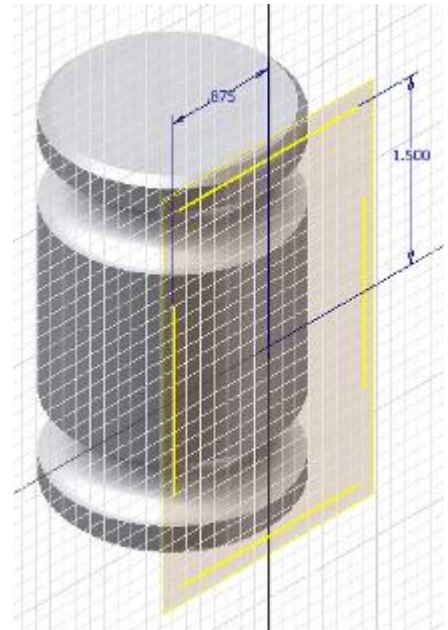

Figure 15. Placing and locating a hole center in the middle of the mallet.
7. From the **Draw** panel select **Point**. Place and locate the Point in the middle of the mallet. Dimension the point from the projected edges so it is centered on the mallet. See Figure 15.